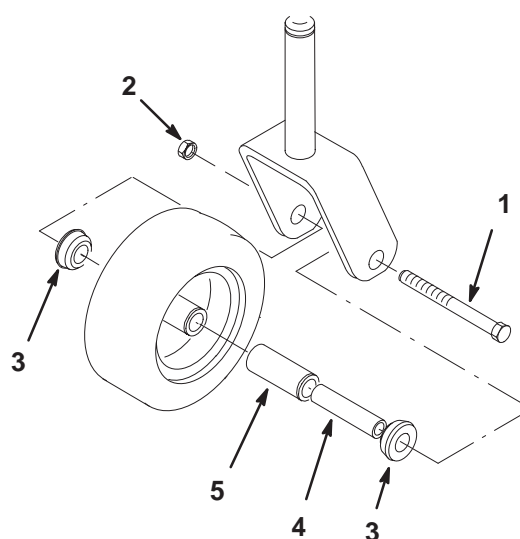

Figure 60
1. Remove the locknut and wheel bolt holding the caster wheel to the caster fork (Fig. 60).
2. Remove one bushing, then pull the spanner bushing and roller bearing out of the wheel hub (Fig. 60).
3. Remove the other bushing from the wheel hub and clean any grease and dirt from the wheel hub (Fig. 60).
4. Inspect the roller bearing, bushings, spanner bushing and inside of the wheel hub for wear. Replace any defective or worn parts (Fig. 60).
5. To assemble, place one bushing into the wheel hub. Grease the roller bearing and spanner bushing and slide them into the wheel hub. Place the second bushing into the wheel hub (Fig. 60).
6. Install the caster wheel into the caster fork and secure with the wheel bolt and locknut. Tighten the locknut until the spanner bushing bottoms against the inside of the caster forks (Fig. 60).